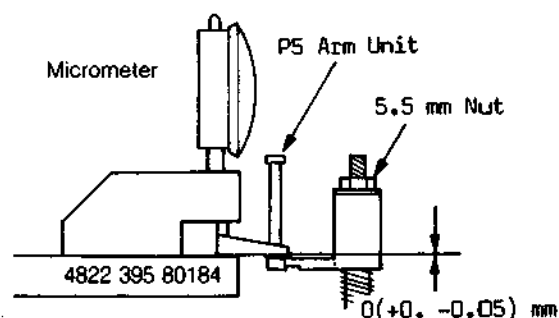

Fig. 2-15
- Place the micrometer on the post adjustment plate and set the meter to zero "0" as shown in Fig. 2-15.
- Place the foot on the post as shown in Fig. 2-15.